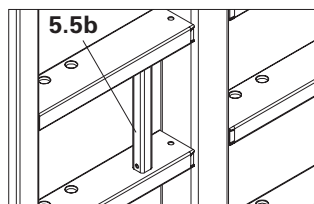

Fig. A1.02b
- Positioning handle (5.5b) (Fig. A1.02b)